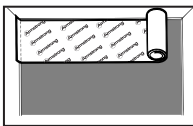

Figure 6
- Install the underlayment in the same direction that the hardwood flooring is to be installed (Figure 6).